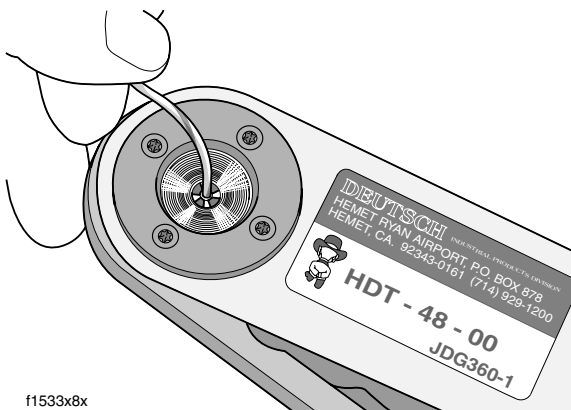

Figure 8-25. Deutsch Solid Barrel Contact Crimping Procedure
4. Raise selector knob and rotate until selected wire size stamped on wheel is aligned with "SEL. NO." arrow. See upper frame of Figure 8-25.
8. Slowly squeeze handles of crimp tool until contact is centered between indenter points. See middle frame of Figure 8-25.
10. Insert bare wire strands into contact barrel. See lower frame of Figure 8-25.